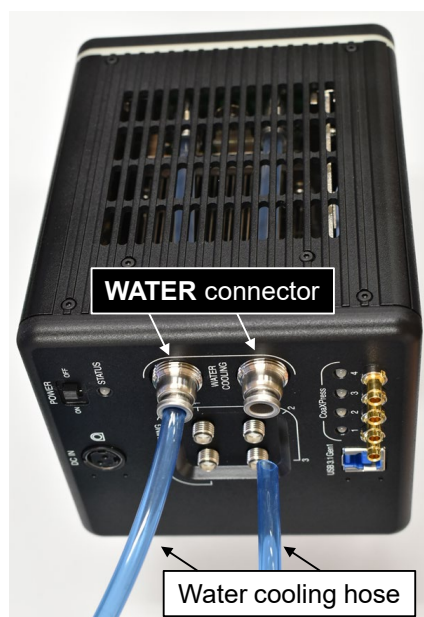

Figure 8-3
- Insert the hose fully into the WATER connector on the camera. (as shown in Figure 8-3)